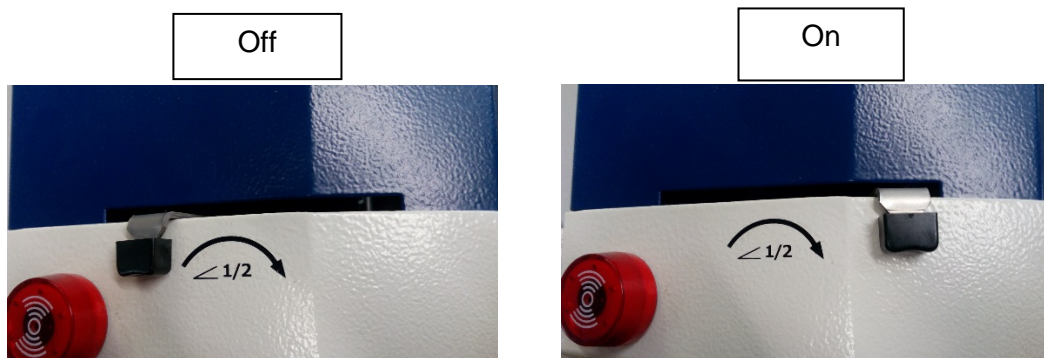
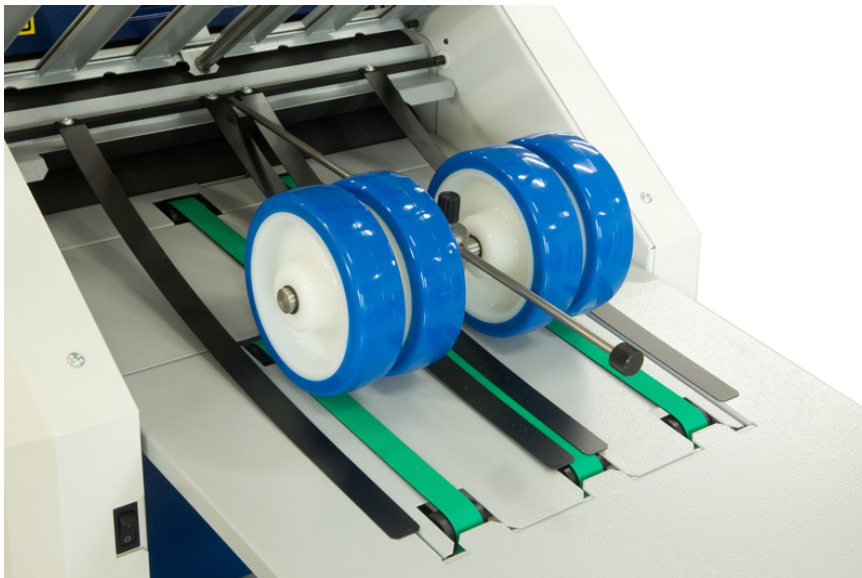

Fig. 5: Two positions of the half fold flap (for folding using the bottom fold plate)
Fig. 7: Delivery wheels in correct position for folding the 1/3 Z format.
The half fold (1/2 fold, single fold) can be set in two ways. The sheet can be folded by means of the top (8) or the bottom fold plate (7). If the paper is to be fold using the top fold plate, remove the bottom fold plate (7) and insert in its place the deflector plate for half fold (6). If the paper is to be fold using the bottom fold plate, switch the half fold flaps (5) in the arrow direction into the On position (Fig. 5). This will disable the top fold plate.
The default setting of the control panel (10) is at half power (Figure 5). This setting should be suitable for most common paper fold types.
- The **START** (21) and **STOP** (22) buttons are designed primarily for machine testing while not connected to creaser. When the folding module is connected to a creaser, the machine automatically turns on the sensor on the feed table on detecting incoming paper.
Move the delivery wheels (12) to a position so that the processed paper is folded continuously and the folded paper overlays correctly. Set the position of the rear delivery wheels (12) on the axis so that the folded paper wholly fits just before these delivery wheels (12). When the position of the delivery wheels and the speed of the delivery belts (17) are set correctly, the folded paper forms on the delivery table (11) a regular line - Fig. 7.